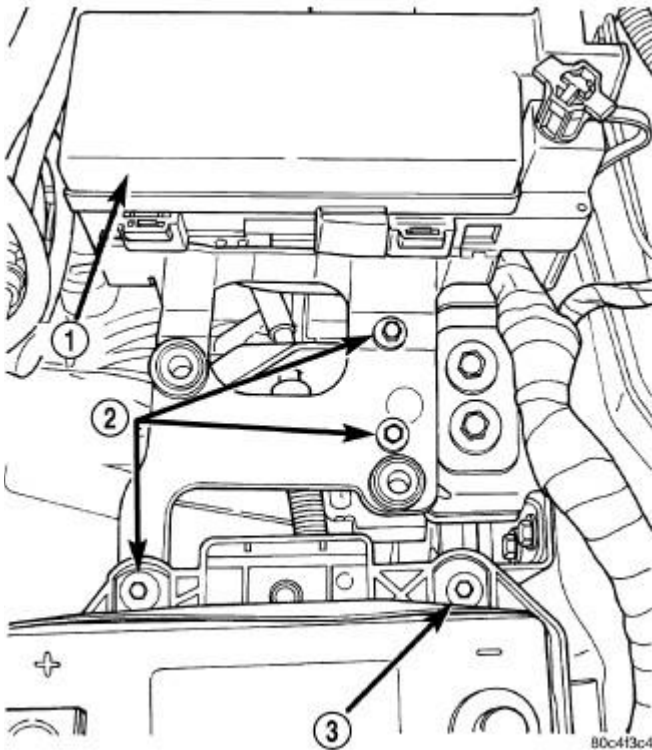

Fig. 176: TIPM Bracket Attaching Bolts - Typical
3. Remove bolts attaching the TIPM bracket (2) to left mount and battery tray (3) . See **Fig. 176**.